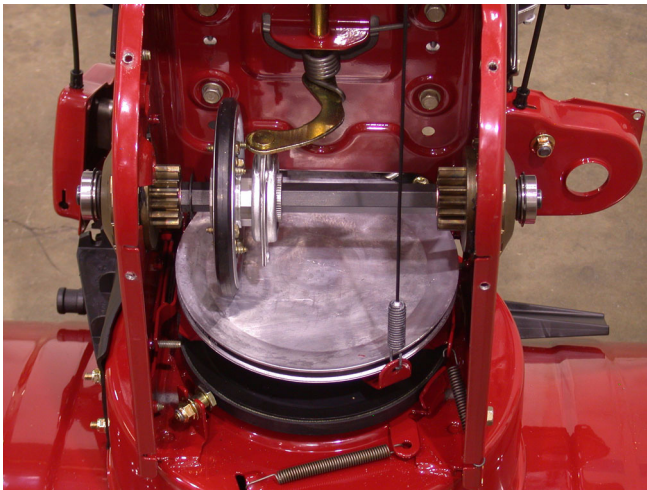

Figure 11.9
- 11.9. Rotate the entire friction assembly backwards to free the pin from the slide shifter. See Figure 11.9.